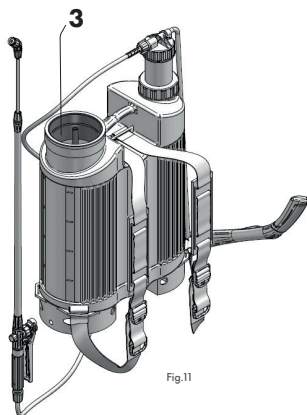

Fig.11
Position the sprayer on a flat surface. A strainer (1, Fig. 11) can be accessed after removing the tank cap.
Pour the previously prepared spraying liquid through the strainer (Fig. 11/item 1). Any dirt which may have found its way into the strainer should be discarded. Screw on filling unit safety cap. The strainer can remain under the cap. Move the sprayer to the workplace. Now you can put the sprayer on your back and adjust the straps.
2. Press the lever (Fig. 11/item 2) and start spraying.